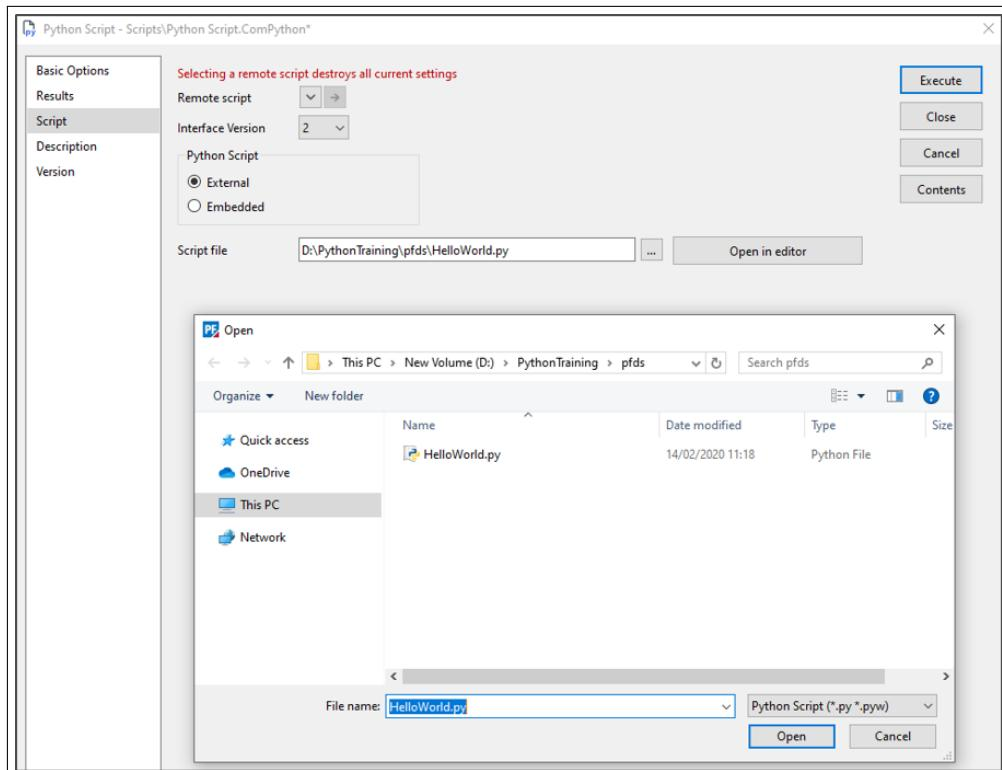

Figure 1.2: Selecting of the *.py-files for a Python Script in *PowerFactory*
- **Script:** link to the Python Script .py and *PowerFactory* Python objects see figure 1.2. Also, a remote script link can be defined. From *PowerFactory* 2019 on embedded Python scripts are supported.